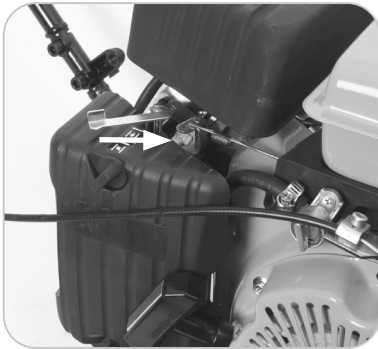

Fig. 7
- Set the choke lever to the 'Choke On' position. **(Fig. 7)**